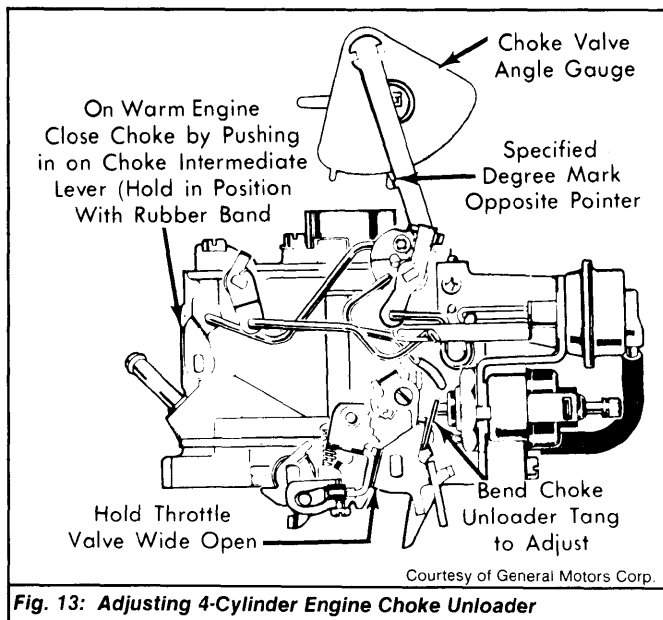

Fig. 13: Adjusting 4-Cylinder Engine Choke Unloader
- 1) Attach rubber band to intermediate choke lever. Open throttle to allow choke valve to close. See Fig. 13 or 14.